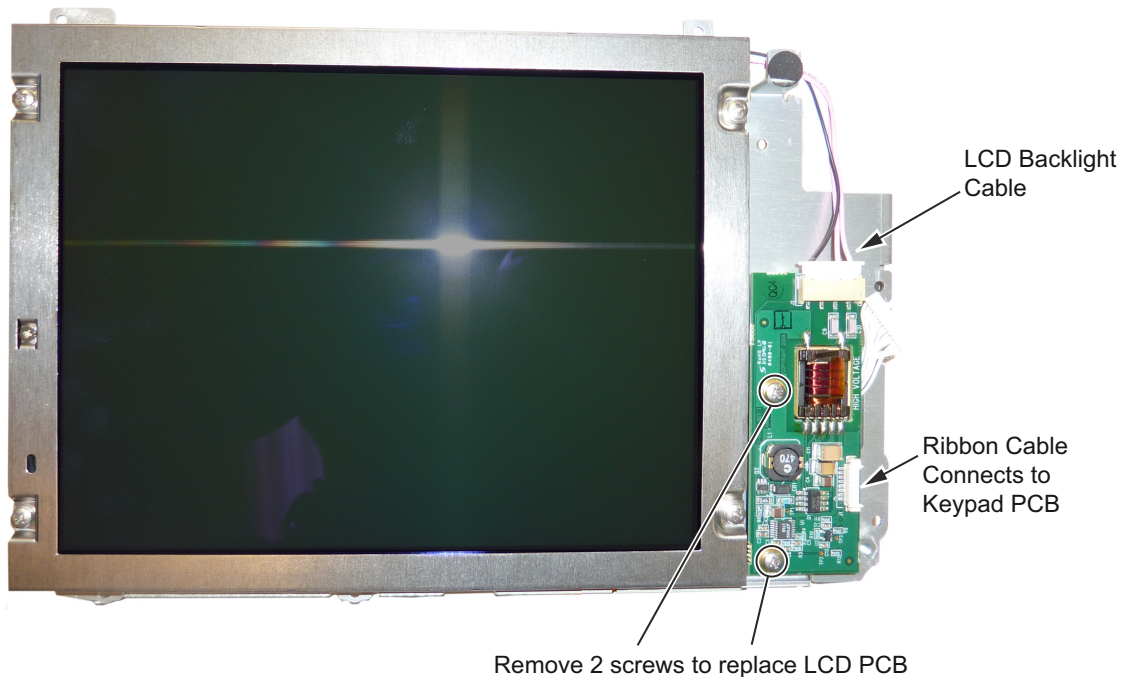

Figure 6-13. Replacing the LCD PCB
5. Use a Phillips screw driver to remove the two screws securing the LCD backlight PCB to the Main PCB assembly (Figure 6-13).